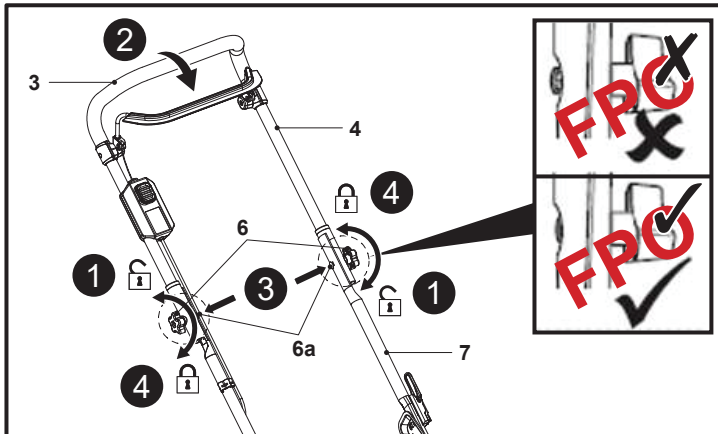

Fig. 3
**WARNING! MAKE SURE THE TWO LOCK LEVERS (8) ARE PROPERLY SECURED BEFORE USING THE PRODUCT.**
**NOTE:** For first assembly, secure the handle assembly with the two lock levers (8) in the middle position of the tilt adjustment mechanism. Ensure the handle assembly is assembled on the same height level on both sides.
4. Fully loosen the two lock knobs (6) but don't remove them, then grasp the grip handle (3) and keep rotating the handle assembly until the upper handle bar (4) aligns with the low handle bar (7) (Fig. 3, steps 1, 2).
5. Pass the mounting bolt (6a) through the mounting holes to the end and secure the upper handle bar (4) by turning the lock knob (6) clockwise (Fig. 3, steps 3, 4).